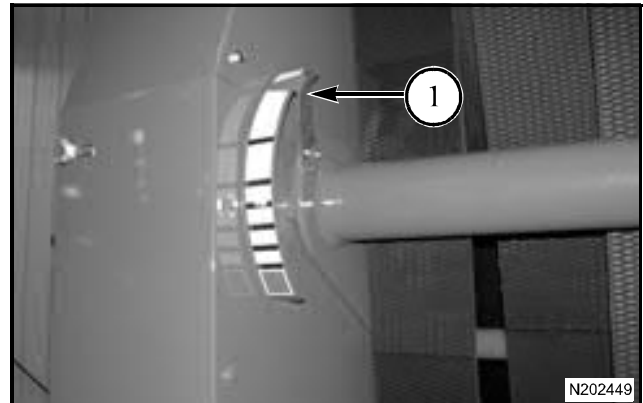

FIG. 9
FIG. 9: The bale size indicator (1) is located on the front right-hand side of the baler. As the bale increases in size, the bale size indicator pointer will move down. Begin wrapping the bale immediately when the bale has reached the desired size.